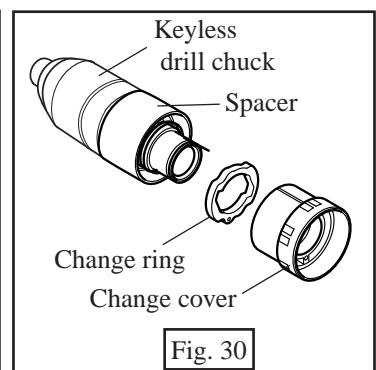

Fig. 30
- (3) Remove keyless drill chuck with spacer and change ring from change cover. See Fig. 30.